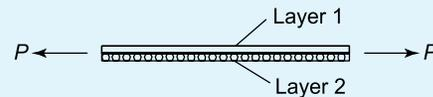

Figure 2.15 Carbon fibre layers
- Two layers of carbon fibre are stuck to each other, so that their fibres lie at 90° to each other, as shown in Figure 2.15. If a tensile force of 1 kN were applied to this two-layer compound bar, determine the stresses in each. For layer 1,  $E_1 = 300 \text{ GPa}$  and  $A_1 = 10 \text{ mm}^2$